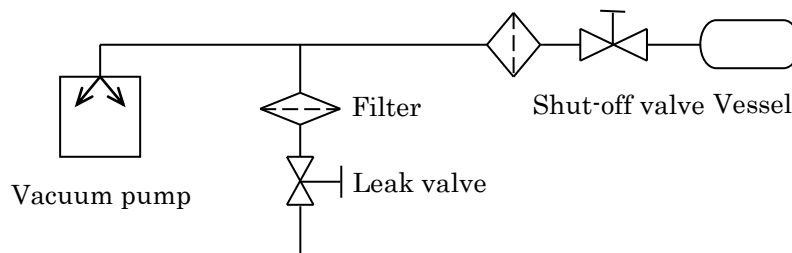

Fig.4 Example of Piping Used When Evacuating a Vessel
- 5) When evacuating a vessel, ensure that a shut-off valve is placed between the pump inlet pipe and the vessel (see Fig.4).